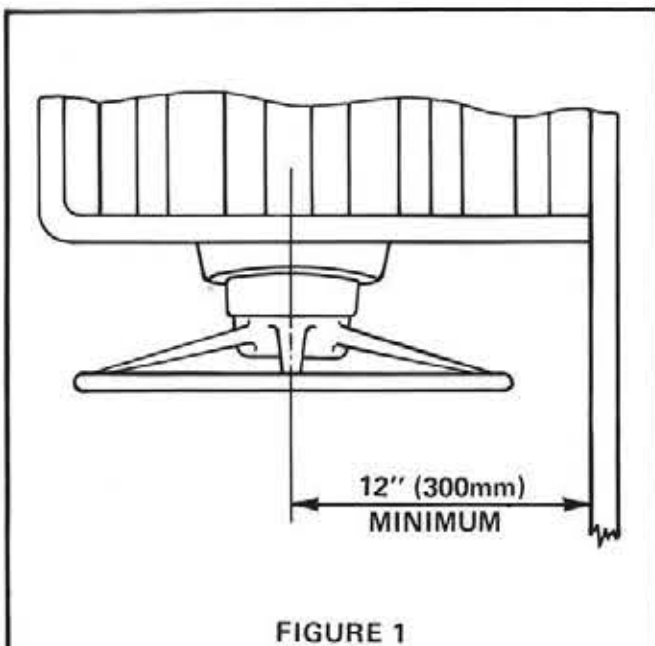

FIGURE 1
1. Steering cables, if possible, should be routed to the starboard side of the boat in order to balance engine torque. A minimum horizontal clearance of 12" (300mm) is required from the gunnel to the center of the Helm steering shaft (See Figure 1).
NOTE: DIMENSIONS SHOWN IN FIGURES 1 AND 4 MUST BE MAINTAINED TO PROVIDE PROPER CLEARANCES FOR HELM.